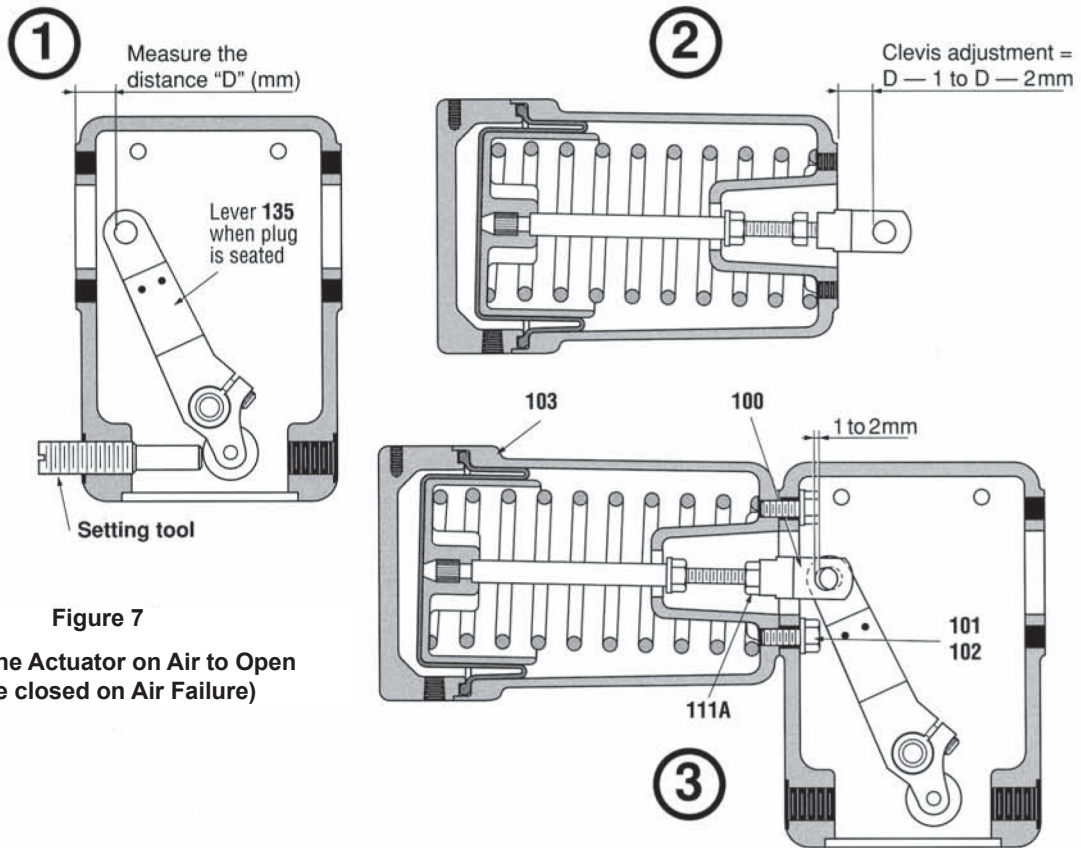

Figure 7
A. Valve closed on air failure (Air to open) (Figure 7)
- a. Determine the position of the lever at which the valve reaches the required tightness and measure the "D" distance from the contact surface of the spring barrel on the yoke to the beginning of the hole for the clevis pin in the lever (135).
- b. The clevis (100) can now be adjusted so that the distance from the beginning of the hole for the clevis pin to the contact surface for the yoke is 1 to 2 mm less than the previously measured "D" distance.
- c. Remove the handwheel or setting tool and secure the spring barrel with the screws (101) and washers (102).